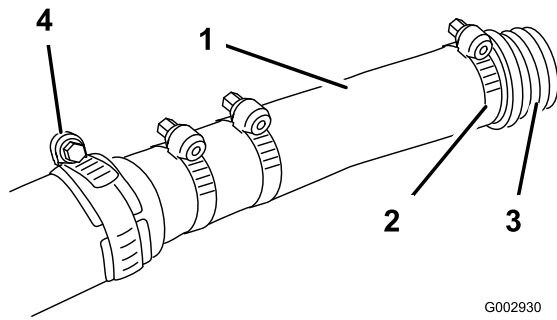

Figure 7
5. Slide a large hose clamp (removed from the hose in step 2) over the hose and install the fitting all the way into the hose, securing it with the hose clamp (Figure 7).